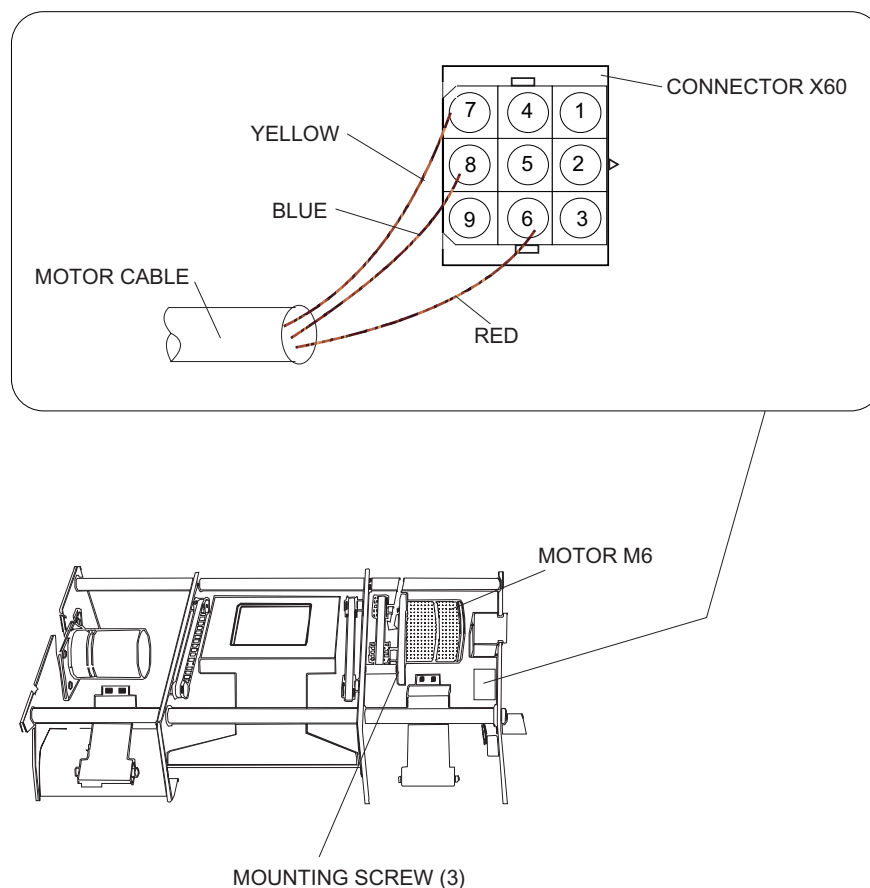

figure 2-29
3. Take out the 3 MOTOR WIRES from the CONNECTOR X60. Use Extraction Tool TL1580. See figure 2-29 on the next page.